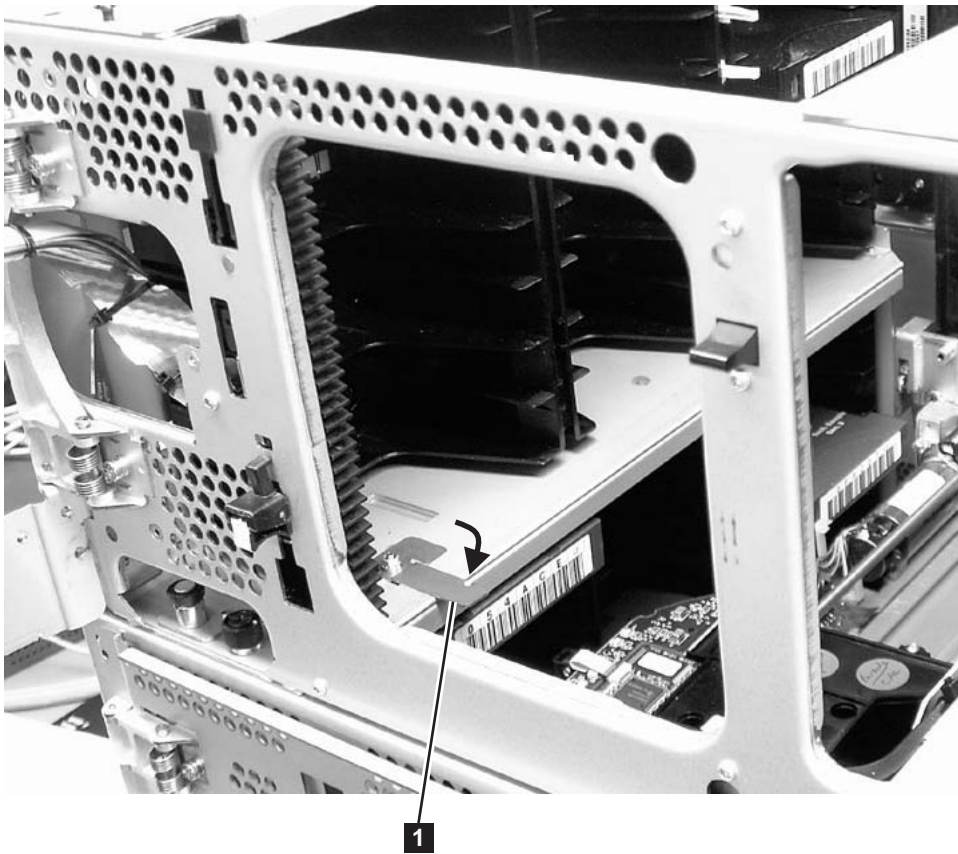

Figure 12-1. Picker locking mechanism
- b. Engage the Picker locking mechanism (**1** in Figure 12-1).
14. Gently push the Picker assembly up high enough to release the Picker locking mechanism (see **1** in Figure 12-1 on page 12-4).